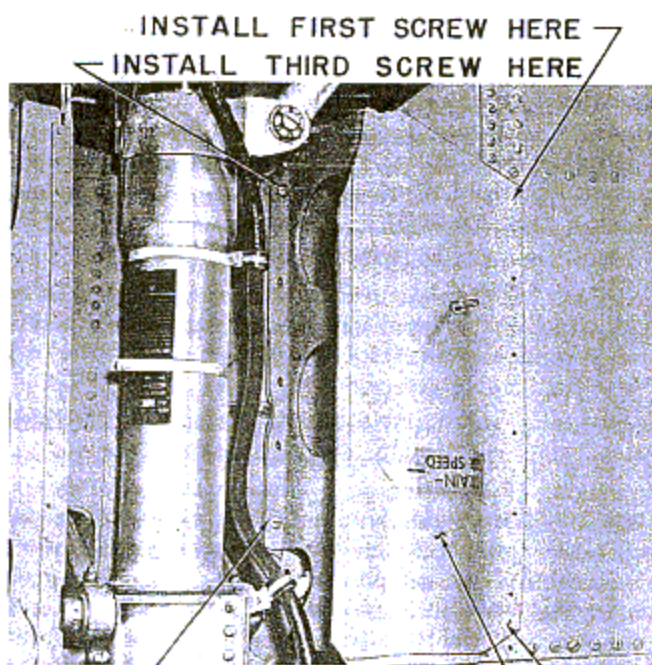

Figure 131—Installation of Landing Gear Fairing—
b. Secure the inner side fairing as indicated in figure 131.